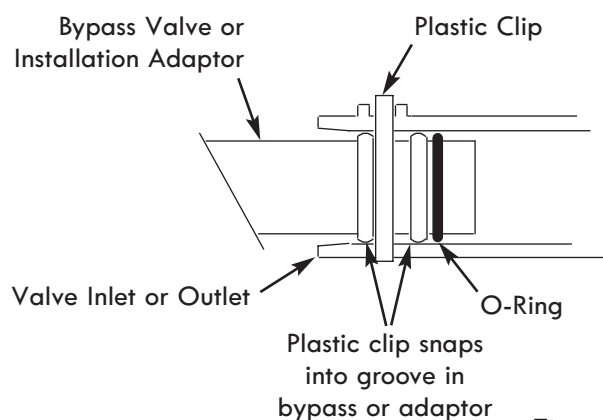

Figure 8
6. Lightly coat the o-rings with silicone grease and slide them onto the bypass valve. Push the bypass valve into the softener valve's inlet and outlet ports as far as it will go. Snap the two large holding clips into place, from the top down as shown (see Fig. 8).
7. Lightly coat the o-rings with silicone grease and slide them onto the installation adaptors. Push the adaptors into the valve inlet and outlet ports, or bypass valve ports, as far as they will go. Both adaptors are the same and fit either port. Snap the two large holding clips into place, as shown (see Fig. 8).